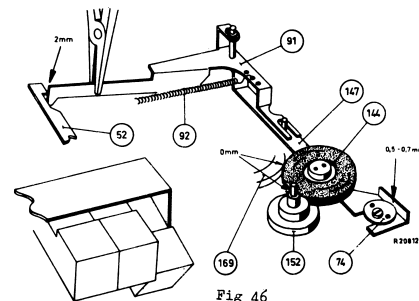

Fig 46
- In the position "winding" the control bracket 91 of the winding idler wheel 144 should be about 2 mm free of the reel strip 52, see fig. 46. This can be adjusted by bending the lip of bracket 91. See fig. 46.
- The winding idler wheel 144 should be pulled by spring 92 between the driving disc of the right hand reel disc and the motor pulley, fig. 46.
- Between the stop lip of idler wheel bracket 147 and the eccentric 74 there must be a clearance of 0.5 - 0.7 mm, see fig. 46. This can be adjusted by turning eccentric 74.